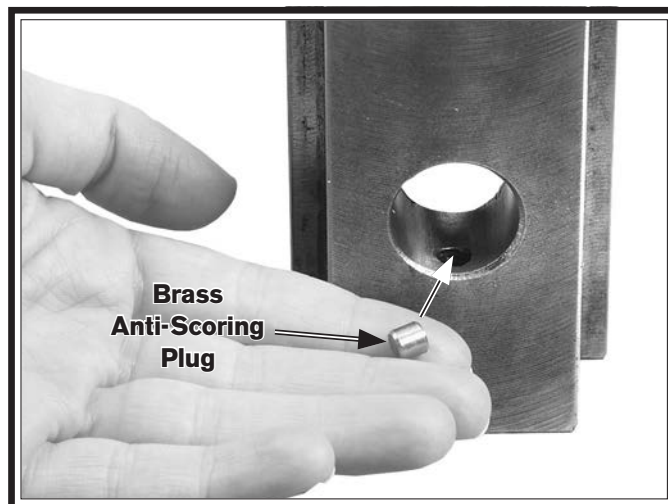

Figure 9. Slide block brass anti-scoring plug.
10. Lift the slide block off the pivot pin. Make sure not to dislodge the brass anti-scoring plug shown in **Figure 9**.